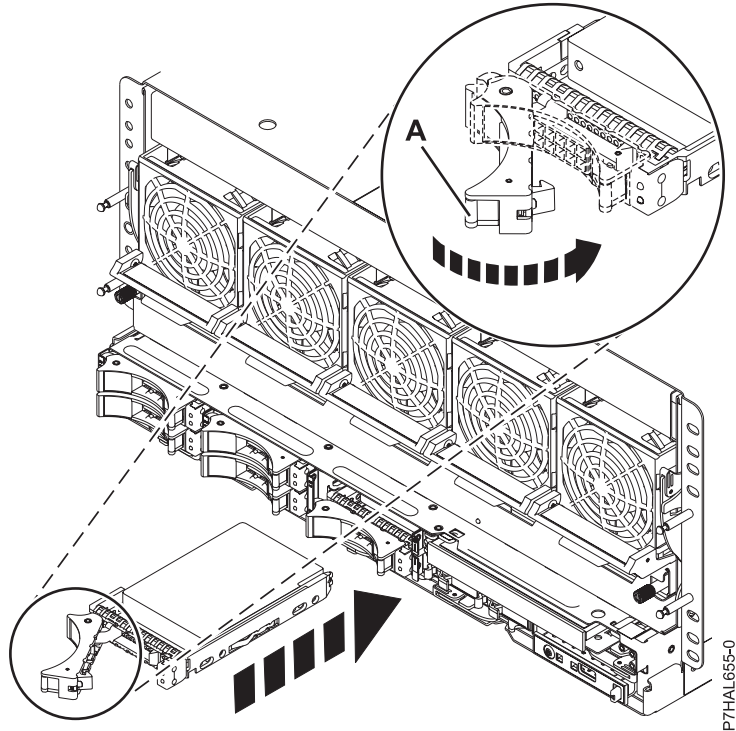
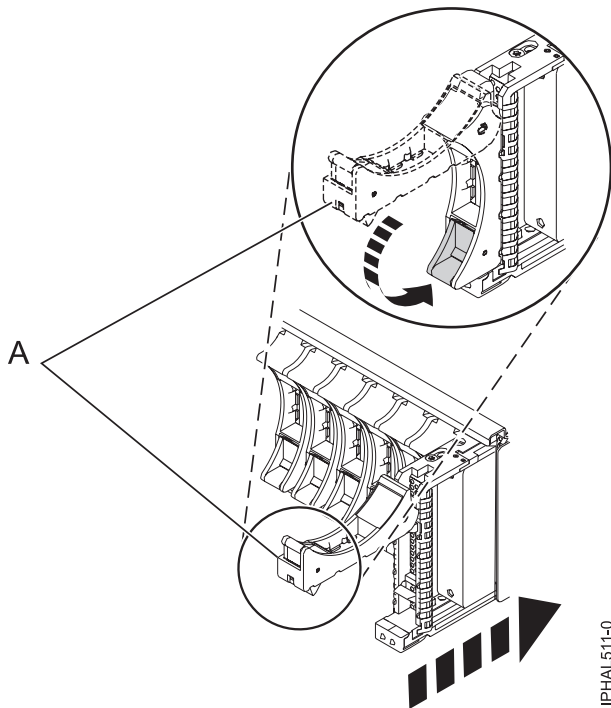

Figure 1. Installing the disk drive in the system
Figure 2. Installing the disk drive in the 5803 expansion unit
7. When the identify LED turns on solid, slide the drive all the way into the system or an expansion unit, and push the drive handle in until it locks. See Figure 1 on page 7 showing installing a drive in the system and Figure 2 on page 7 showing installing a drive in the 5803 expansion unit.